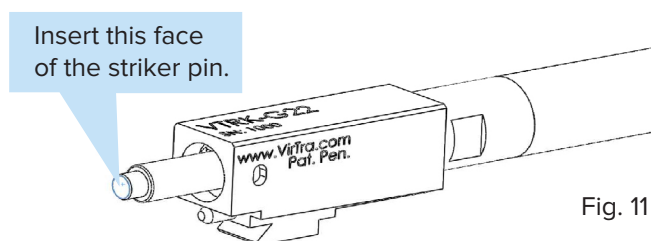

Fig. 11
2. Inspect the face of the striker pin that the firing pin strikes with each trigger pull as shown in figure 11. If this face is still relatively flat and not mushroomed out, then the striker pin is most likely not the culprit.